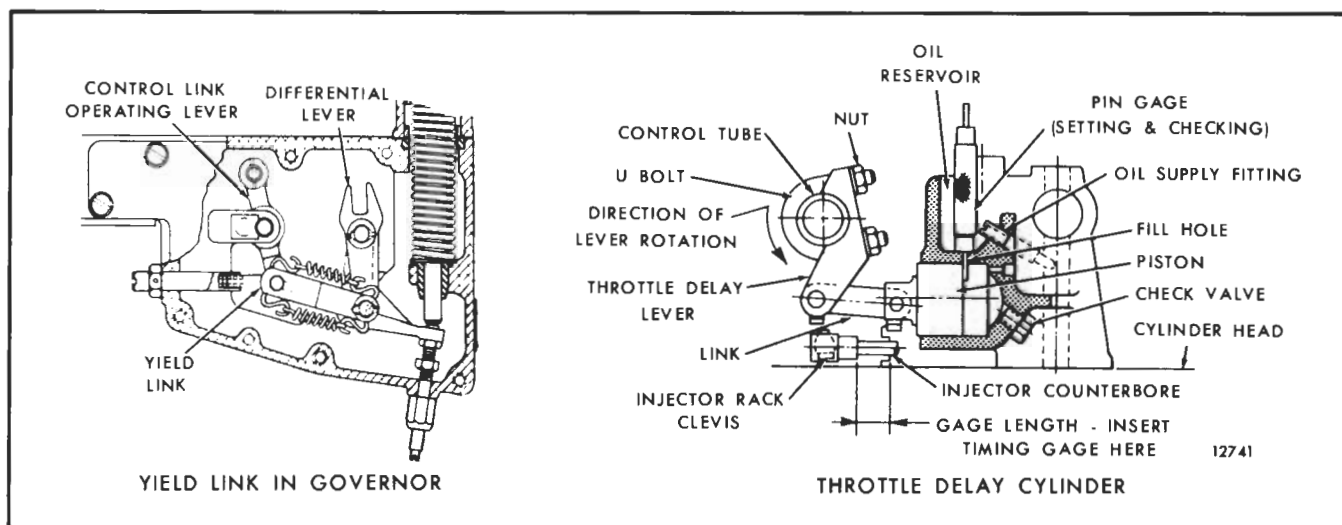

Fig. 3 - Throttle Delay Cylinder and Yield Link
The throttle delay mechanism (Fig. 3) is installed between the No. 1 and No. 2 cylinders on the right bank cylinder head. It consists of a special rocker arm shaft bracket (which incorporates the throttle delay cylinder), a piston, throttle delay lever, connecting link, orifice plug, ball check valve and U-bolt.
Oil is supplied to a reservoir above the throttle delay cylinder through an oil supply fitting in the drilled oil passage in the rocker arm shaft bracket (Fig. 3). As the injector racks are moved toward the no-fuel position, free movement of the throttle delay piston is assured by air drawn into the cylinder through the ball check valve. Further movement of the piston uncovers an opening which permits oil from the reservoir to enter the cylinder and displace the air. When the engine is accelerated, movement of the injector racks toward the full-fuel position is momentarily retarded while the piston expels the oil from the cylinder through an orifice. To permit full accelerator travel, regardless of the retarded injector rack position, a spring loaded yield link replaces the standard operating lever connecting link in the governor.
1. Refer to Fig. 3 and insert gage J 25559 (.570" setting) when 9285 mm injectors or lower output are used, or J 25560 (.636" setting) when 9290 mm injectors or higher output are used, between the injector body and the shoulder on the injector rack clevis of the injector nearest the throttle delay cylinder.
4. Rotate the throttle delay lever in the direction shown in Fig. 3 until further movement is limited by the piston contacting the pin gage.